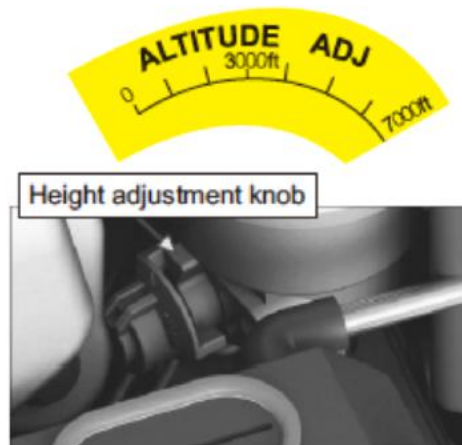

Fig. 6
2. Locate the high altitude adjustment knob (Fig. 6) located on the carburetor bowl, it is located behind the air cleaner cover.